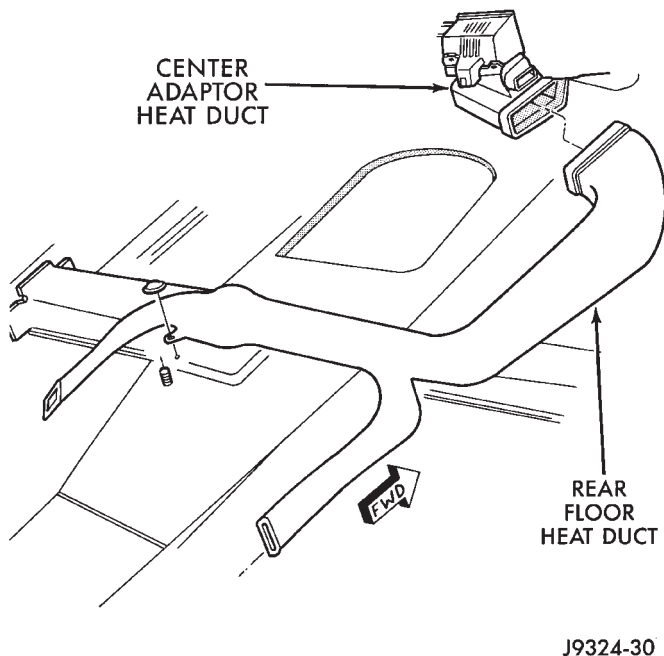

Fig. 51 Floor Duct Remove/Install
(5) Remove the nut that secures the floor duct to the stud on the floor pan transmission tunnel (Fig. 51).